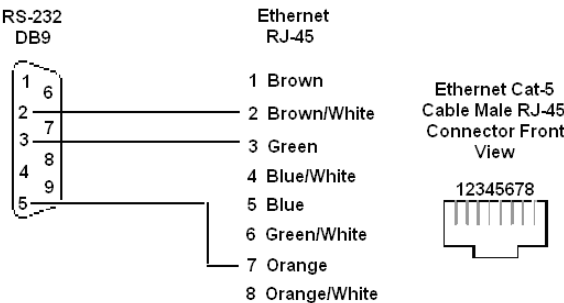

Figure 1.2 RS-232 Network Connection
- ☐ 4.2: Connect the RJ-45 port on the front of the V7 drive to the controller serial port. Use a DB9 to RJ-45 adapter with a standard Ethernet CAT-5 patch cable or use Yaskawa cable UWR00468-2. **Do NOT connect this cable to an Ethernet port** on the controller, as damage to the controller and/or V7 drive may result. Refer to *Figure 1.2 – RS-232 Connections*.